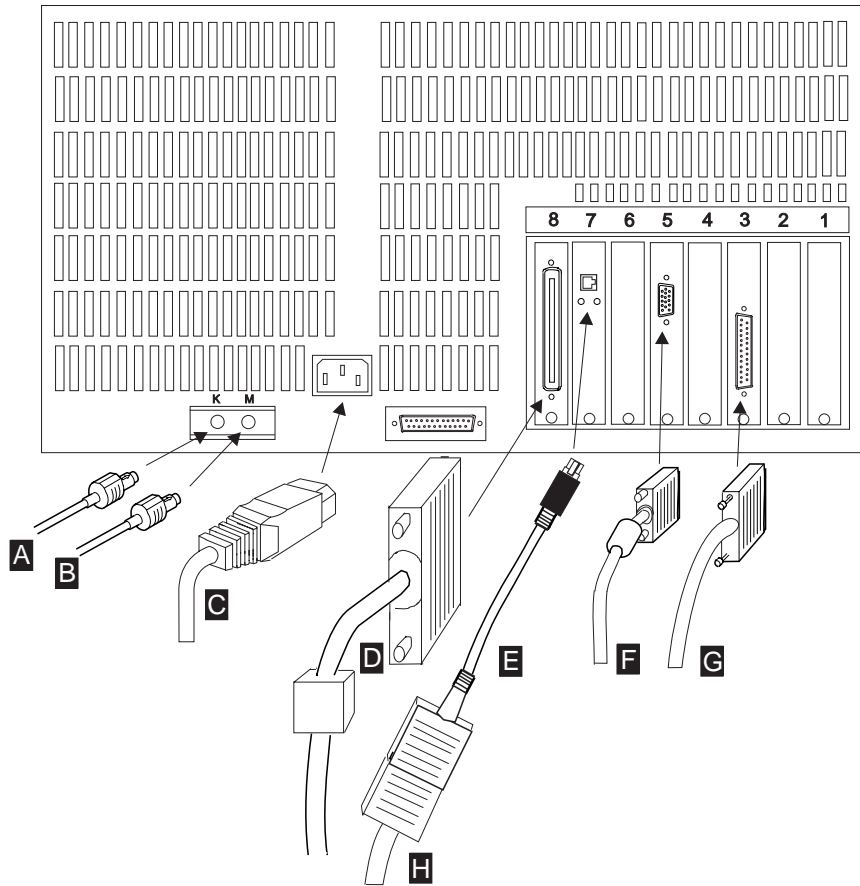

Figure 6-3. Service Processor Cables
- c** At the rear of the processor re-connect all the cable previously removed (see Figure 6-3 on page 6-42).